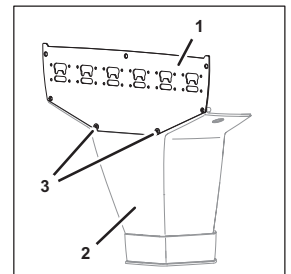

Fig. 54
2. Remove the fastening bolts (Fig. 54/3) from the dispensing valve support (Fig. 54/1).
3. Lift and remove the dispensing valve support (Fig. 54/1) from the stand (Fig. 54/2) in an upward motion.
5. Position the dispensing valve support (Fig. 54/1) on the stand (Fig. 54/2).
6. Attach the dispensing valve support (Fig. 54/1) using the fastening bolts (Fig. 54/3).